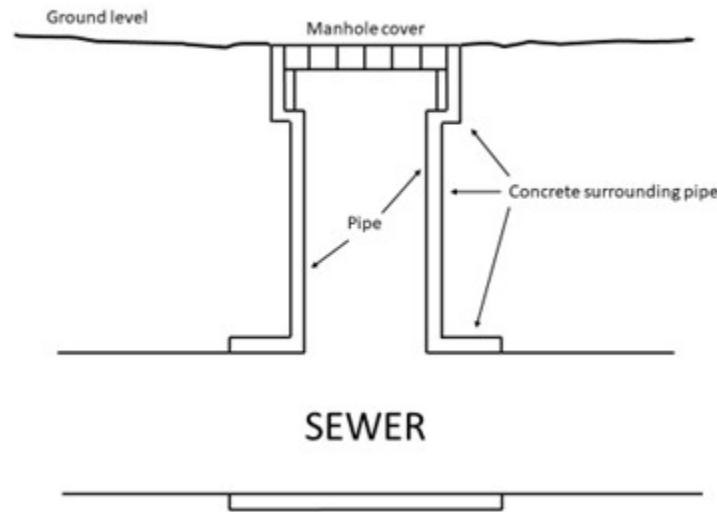

Figure 8 Lamp manhole
- Figure 8 Lamp manhole by Greg Wirachowsky is licensed under a CC BY-NC-SA licence.